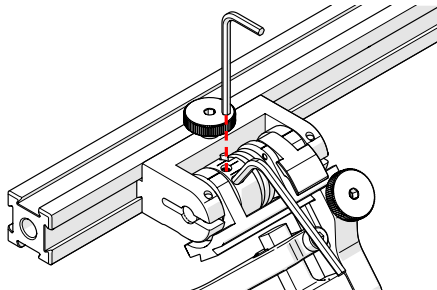

Fig. 201 - Insert hex tools
4. Place the 2 mm hex wrench into the force adjustment screw (Fig. 201).